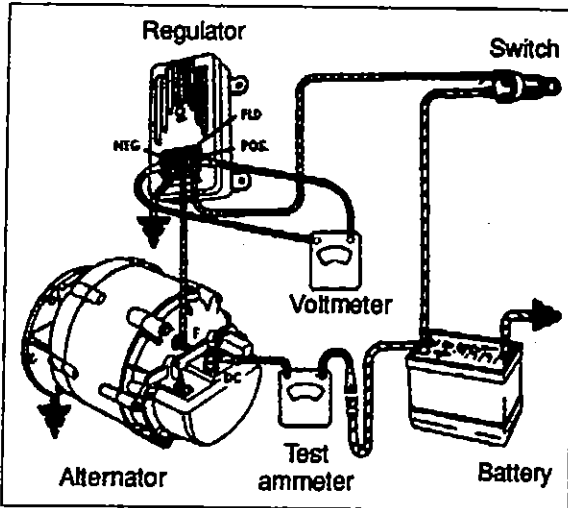

Figure 32
1. To check the voltage setting, connect a voltmeter across the "POS" and "NEG" terminals on the regulator, and an ammeter to the "DC" terminal on the alternator. Refer to figure 32.